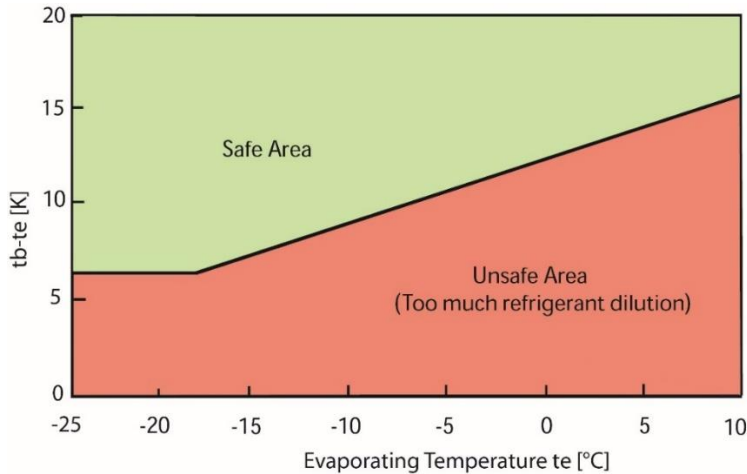

Figure 6: R290 oil dilution chart (tb = bottom shell temp.; te = evaporating temp.)
- Record the bottom shell temperature under all tested conditions. The bottom shell temperature together with the evaporating temperature give an indication whether liquid refrigerant is returning or diluted in the compressor oil sump. The compressor sump temperature must remain above the evaporating temperature as shown in **Figure 6**. Otherwise adjustments need to be done in the design, refrigerant charge or superheat setting of the expansion device in order to always operate in the safe area.
- Before compressor start with the matched pair of YBVH* and the ED3 drive, the pressure difference in the system has to be below 10 bar. If the pressure difference is reduced by opening the expansion valve, care must be taken to avoid liquid flood back to the compressor – also see oil dilution chart in **Figure 6**.